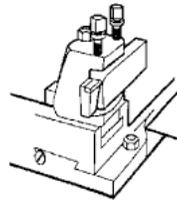

Figure Turn-9: hold the tool on a turret
6. Choose an appropriate cutting tool which will be hold on turret. See figure Turn-9.